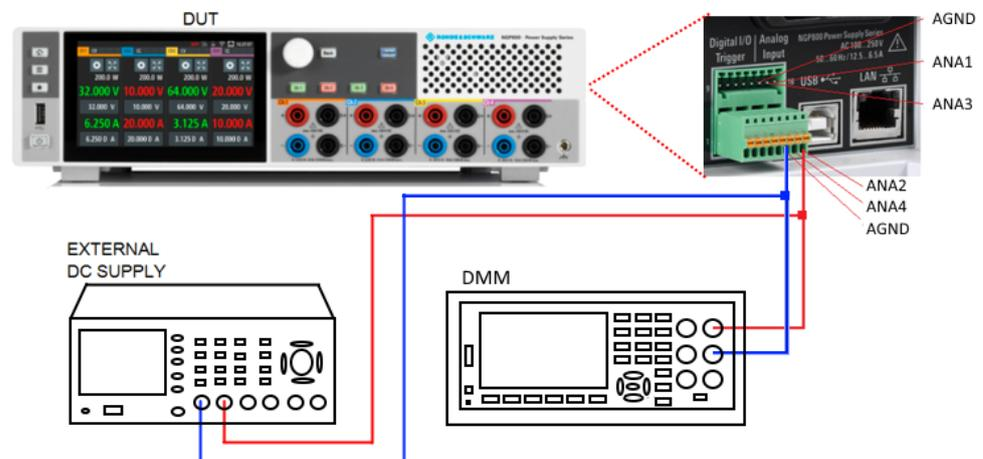

Figure 6-64: Analog input adjustment setup
4. Setup the adjustment with instruments illustrated in Figure 6-64.